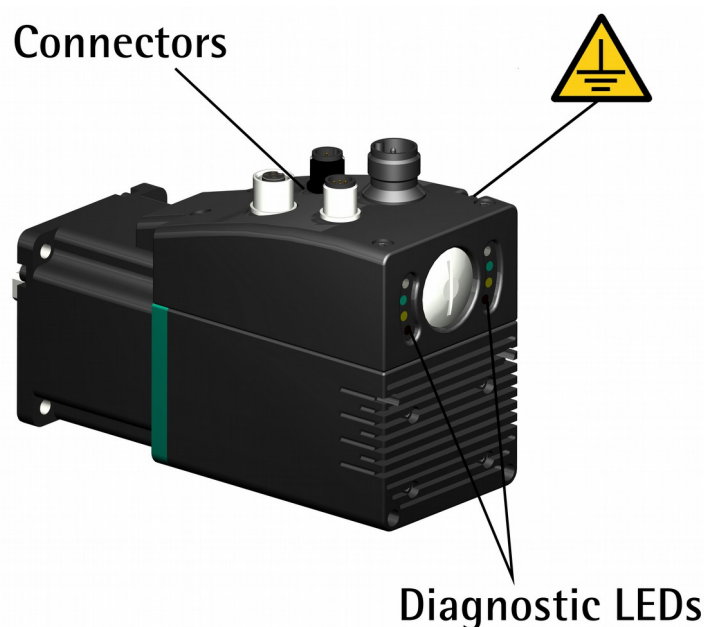
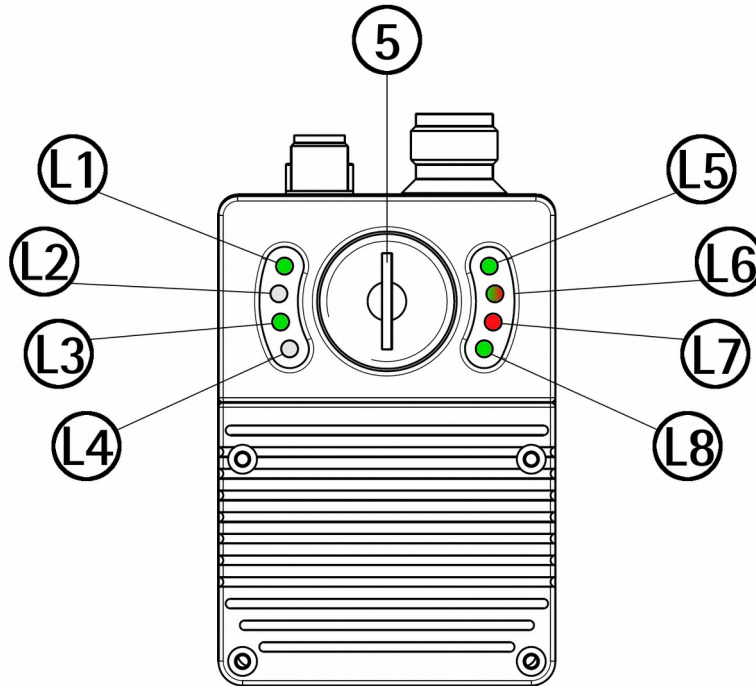

Figure 4: Connectors and diagnostic LEDs
Figure 6: Diagnostic LEDs
4.2 Connectors (Figure 4 and Figure 5)
4.3 Diagnostic LEDs (Figure 4 and Figure 6)
4.4 Screw plug for internal access (Figure 4 and Figure 6)